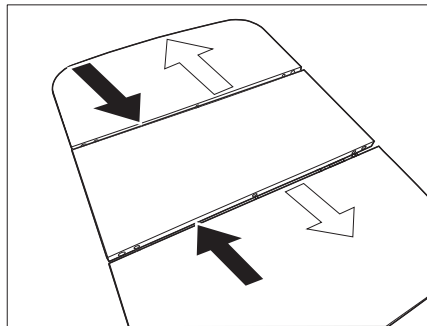

Fig. 105 Lowering the table
- Push the outer parts of the table onto the middle part (Fig. 105 - black arrows).
- Pull apart the outer parts of the table (Fig. 105 - white arrows).